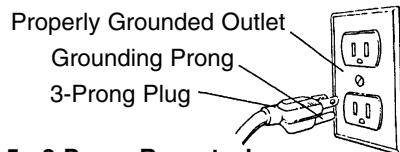

Figure 5 - 3-Prong Receptacle
- This tool is equipped with an approved cord and a 3-prong grounding type plug (see Figure 5) for your protection against shock hazards.
- Grounding plug should be plugged directly into a properly installed and grounded 3-prong grounding-type receptacle, as shown (see Figure 5).